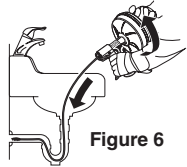

Figure 6
- Cable can also be rapidly advanced/retracted by hand.** Advance cable until you encounter the blockage (Figure 6).